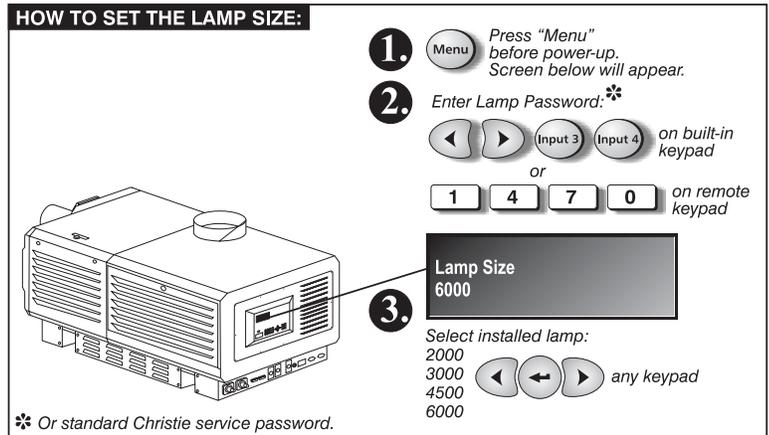

Figure 2.41. Checking or Setting Lamp Size
1. Press **Menu**. The Status Display at the rear of the projector will show a "Lamp Size" of 2000, 3000, 4500 or 6000 watts, depending on its last setting (factory default=6000). See Figure 2.41.
2. Enter either the Lamp Password (see Figure 2.41), or the Christie service password. *NOTE: A password is required unless the "Enable Password" service option has been turned off.*